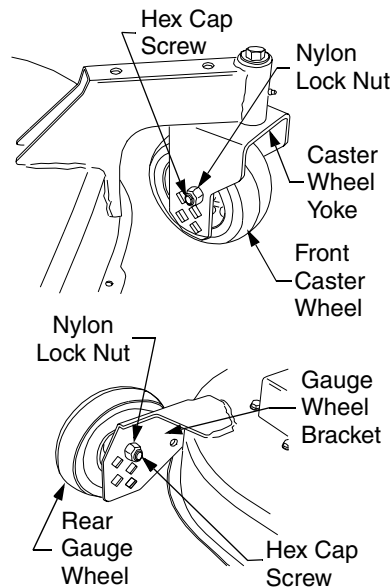

Figure 33
3. Remove the hex cap screws and nylon lock nuts from the rear gauge wheels and gauge wheel brackets (See Figure 33).
The cutting height is set by positioning the front caster wheels in one of five settings in the caster wheel yoke of the deck (See Figure 33). The setting holes equate to height settings ranging from approximately 1-1/2" (upper hole) to 3-1/2" (lower hole), with the holes positioned at 1/2" increments.
1. Remove the hex cap screws and nylon lock nuts from the front caster wheels and caster wheel yokes (See Figure 33).
1. Adjust the front caster wheels and rear gauge wheels to their highest setting (lowest deck height setting). Refer to Figure 33 if necessary.